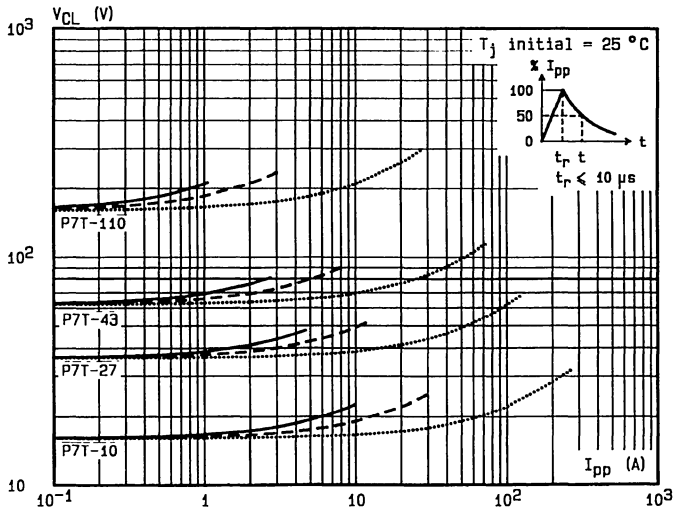

Fig.2 - Clamping voltage versus peak pulse current.
Note : The curves of the figure 2 are specified for a junction temperature of 25 °C before surge. The given results may be extrapolated for other junction temperatures by using the following formula : $\Delta V (BR) = \alpha_T (V(BR)) \times [T_j - 25] \times V (BR)$